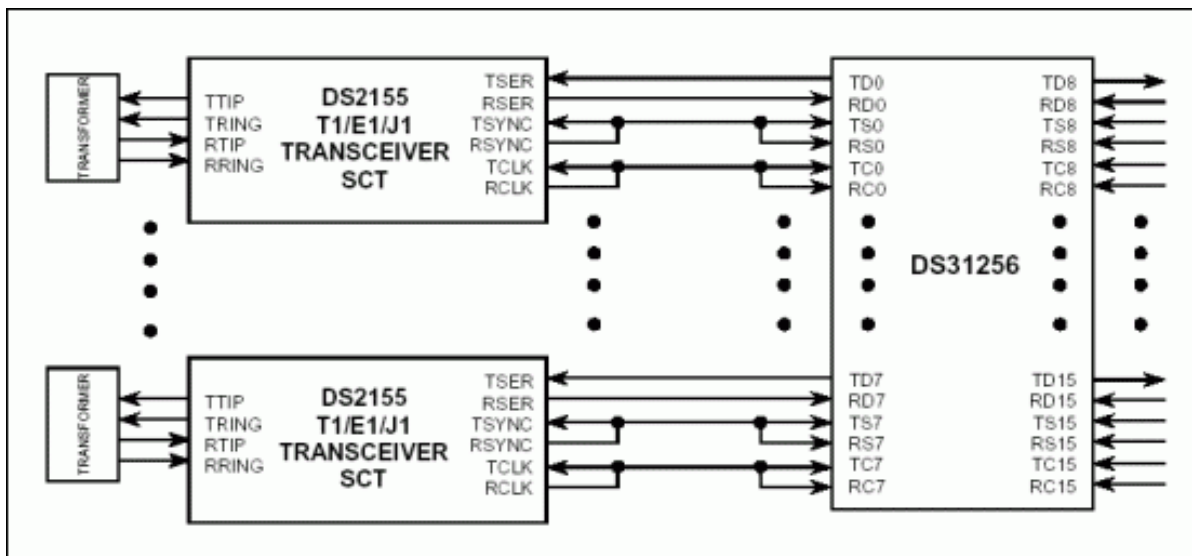

Figure 1. DS2155 connected to DS31256 in T1 and E1 mode.
**Figure 1** shows the connection between DS2155 and DS31256 in T1 mode. The receive elastic store is bypassed in the framer because the transmit clock is sourced from the RCLK pin. The transmit synchronization signal is sourced from the RSYNC pin.